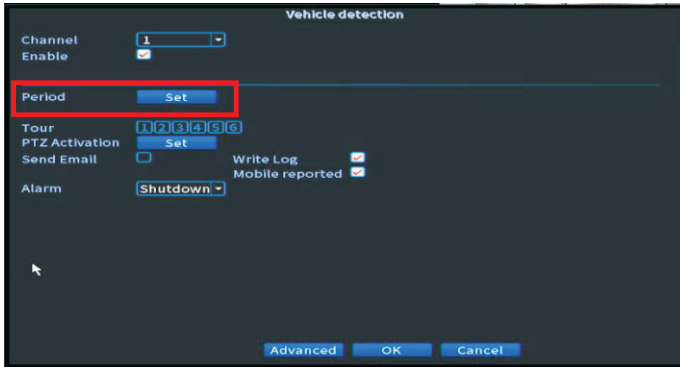

Figure 13. Click on Period "Set" button.
20. Click the Period "Set" button to set the schedule. See Figure 13.